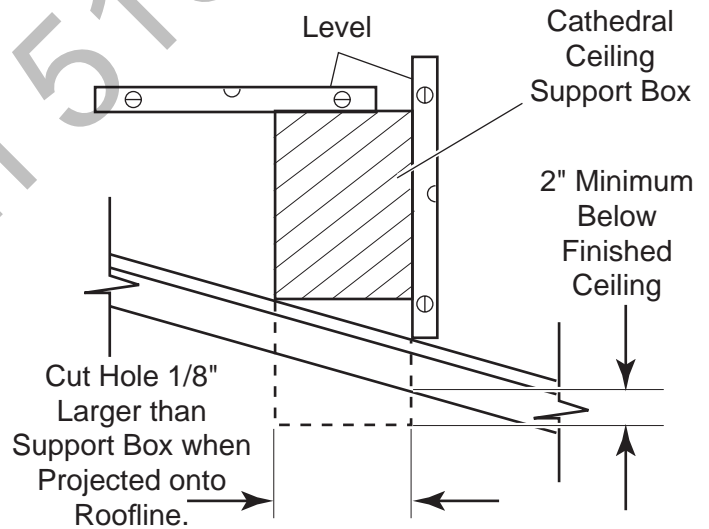

Figure 25 - Cathedral Ceiling Support Box Installation
2. Cut the hole $\frac{1}{8}$ " larger than the support box outline. See Figure 25.
3. Lower the support box through the hole in the roof until the bottom of the box extends at least 2" (mm) below the ceiling. See Figure 25. Align the support box vertically and horizontally using a level. Temporarily tack the support box in place through the inside walls and into the roof sheathing.